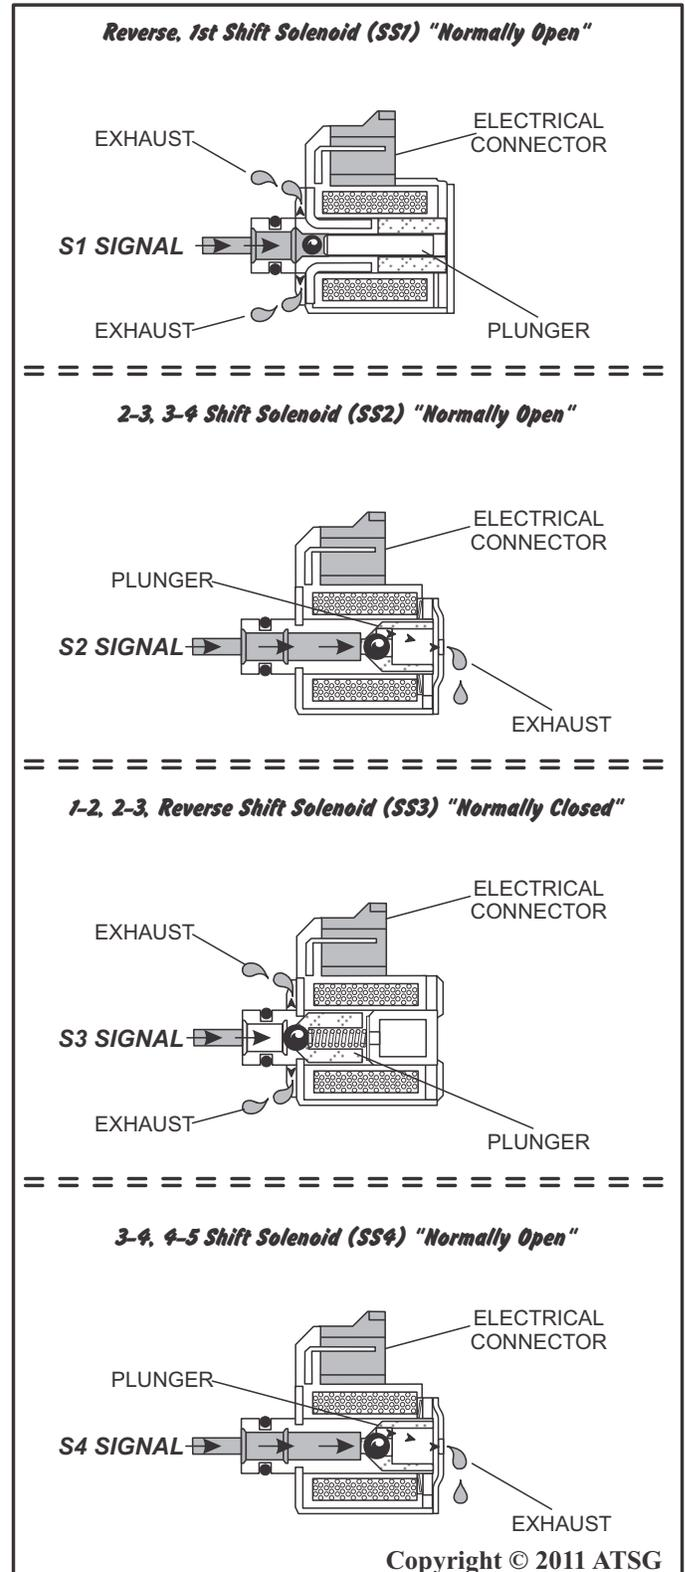

Figure 10
The reverse, 1st shift solenoid is a normally-open (N.O.), ON/OFF type solenoid controlled by the TCM. Line fluid feeds the S1 signal fluid circuit through orifice No. 3. When the reverse, 1st shift solenoid is energized (ON), S1 fluid is blocked from exhausting through the solenoid, creating S1 fluid pressure that acts on the U1 shift valve and the M1 shift valve. When the reverse, 1st shift solenoid is OFF, any existing S1 signal fluid pressure is exhausted through holes at the base of the solenoid, as shown in Figure 10.
The 2-3, 3-4 shift solenoid is a normally-open (N.O.) ON/OFF type solenoid controlled by the TCM. Drive fluid feeds the S2 signal fluid through orifice No. 25. When the 2-3, 3-4 shift solenoid is energized (ON), S2 fluid is blocked from exhausting through the solenoid, creating S2 signal fluid pressure that acts on the M2 shift valve, against spring force, to move the valve into the applied position. When the 2-3, 3-4 shift solenoid is OFF, any existing S2 signal fluid pressure is exhausted through the end of the solenoid, as shown in Figure 10.
The 1-2, 2-3, reverse shift solenoid is a normally-closed (N.C.) ON/OFF type solenoid controlled by the TCM. Drive fluid feeds the S3 signal fluid through orifice No. 24. When the 1-2, 2-3, reverse shift solenoid is energized (ON), S3 signal fluid is allowed to exhaust through the base of the solenoid, as shown in Figure 10. When the 1-2, 2-3, reverse shift solenoid is OFF, S3 signal fluid is blocked from exhausting through the base of the solenoid, creating S3 signal fluid pressure that acts on the U2 shift valve, against spring force, to move the valve into the applied position as shown in Figure 10.
The 3-4, 4-5 shift solenoid is a normally-open (N.O.) ON/OFF type solenoid controlled by the TCM. Line fluid feeds the S4 signal fluid through orifice No. 4. When the 3-4, 4-5 shift solenoid is energized (ON), S4 fluid is blocked from exhausting through the solenoid, creating S4 signal fluid pressure that acts on the U2 shift valve and the U1 shift valve. When the 3-4, 4-5 shift solenoid is OFF, any existing S4 signal fluid pressure is exhausted through the end of the solenoid, as shown in Figure 10.